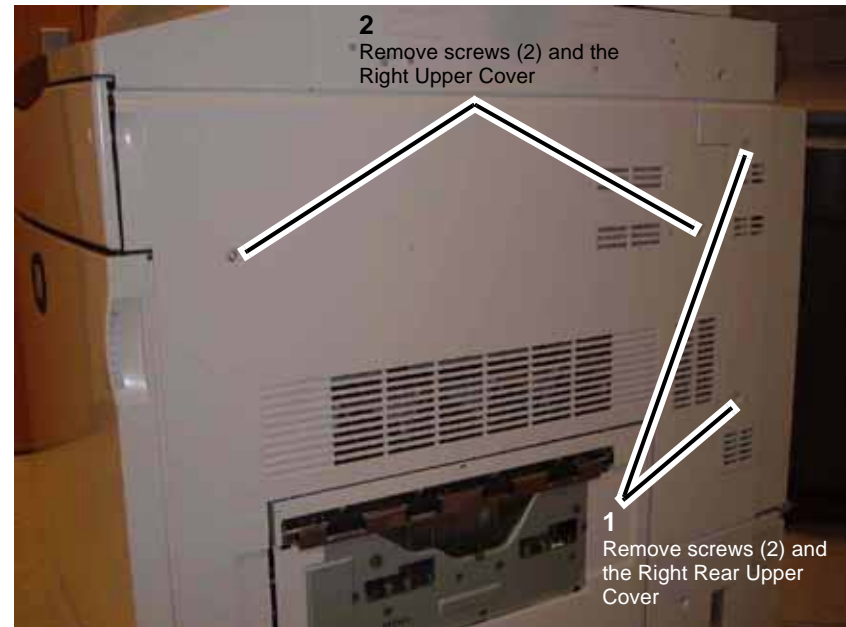

Figure 1 Removing the Right Rear Upper and Right Upper Cover
2. Remove the Right Rear Upper and Right Upper Covers (Figure 1).